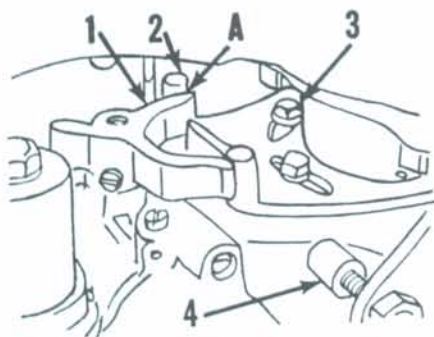

Fig. M7-6—Throttle control mechanism used on late four cylinder models.
Other Four-Cylinder Models: First make certain that magneto is properly timed and adjusted. With the engine not running, slowly move the speed control lever toward the "Fast" position until magneto advance stop just touches the crankcase. Refer to Fig. M7-6. Loosen the screws (3) securing the throttle actuator assembly to economizer collar; then move the actuator plate until 0.015 clearance (A) exists between follower (2) and throttle cluster lever (1). Tighten the